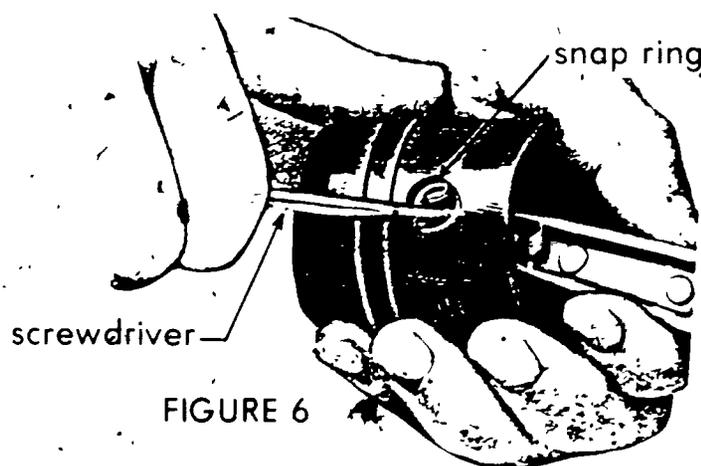

FIGURE 6
1. Remove pin retainers (Figure 6)